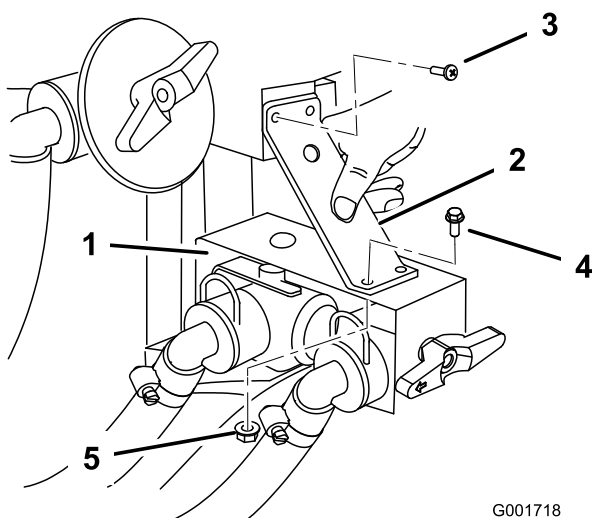

Figure 10
7. Install the support bracket over the control valve bracket. Use the two existing screws securing the upper tee assembly to secure upper portion of the support bracket (Figure 10). Secure the lower portion of the support bracket using two flange-head bolts (1/4 x 3/4 inch) and two flange nuts (1/4 inch).